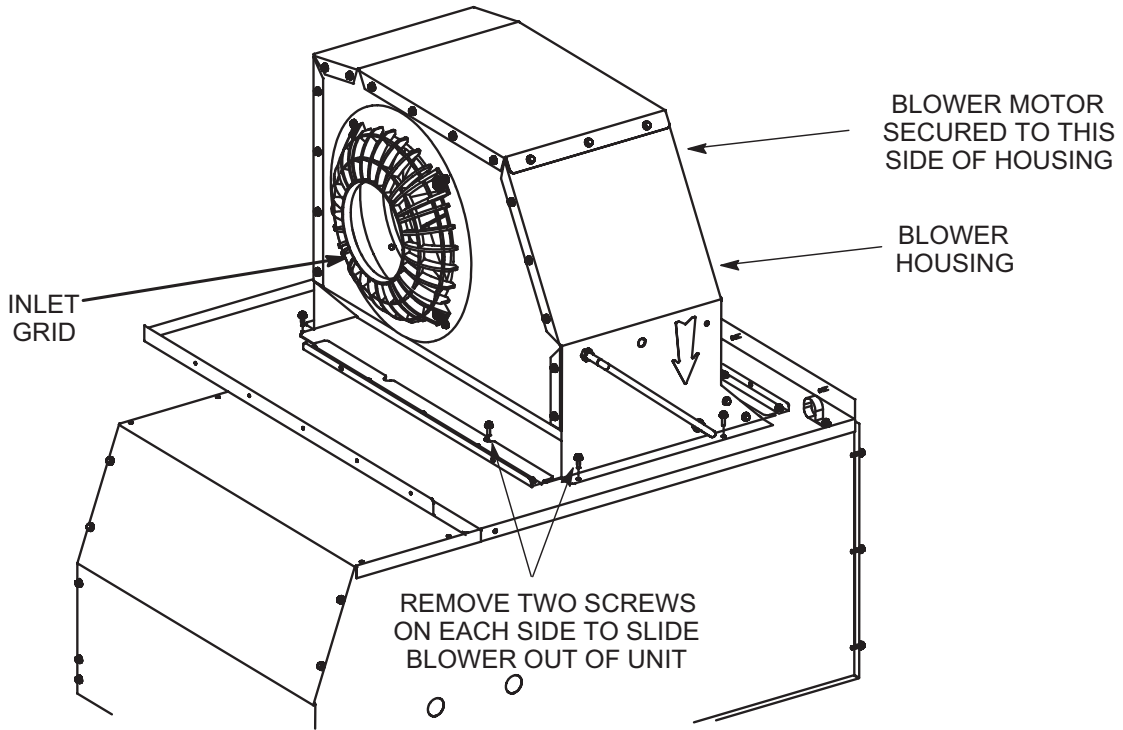
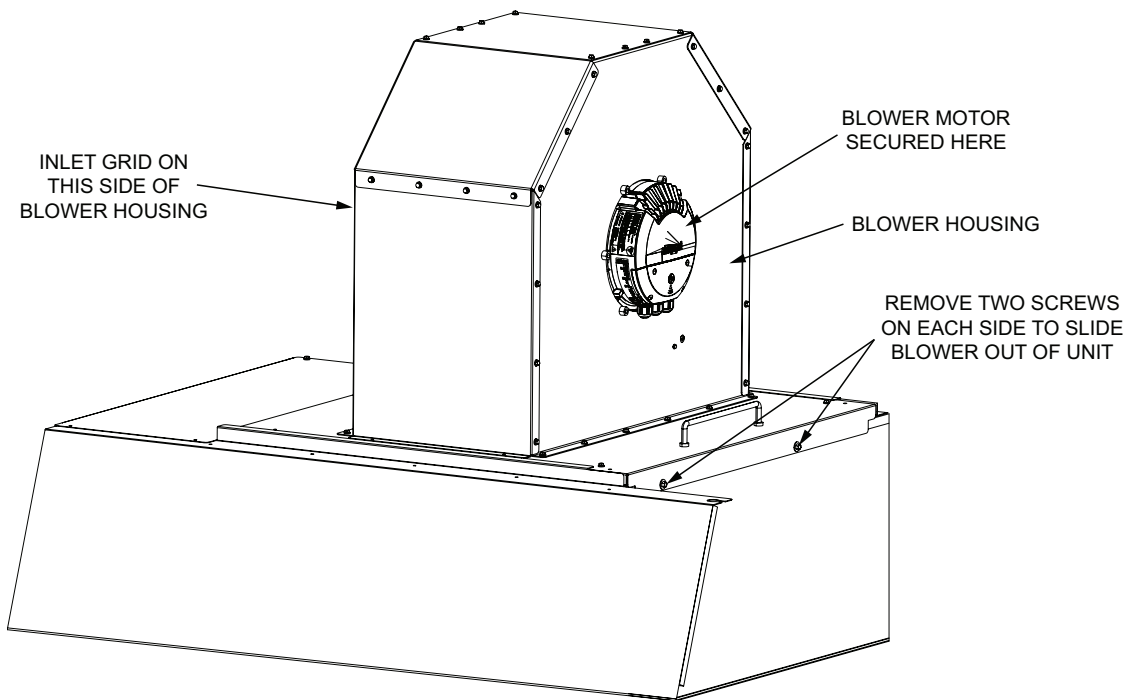

FIGURE 29
FIGURE 30
- 2 - Remove and retain screws in front and on either side of blower housing. Pull frame toward outside of unit. See FIGURE 29, FIGURE 30, and FIGURE 31.